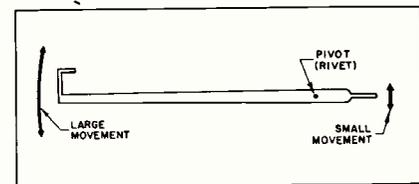

Fig. 2—Movement amplification of trip lever.
**Trip Lever.** The purpose of the trip lever is to couple the movement of the trip link (or trip finger, as the case may be) to the trip pawl. Due to the leverage design of the trip lever, the minute movement of the trip finger and the trip link is considerably amplified, as indicated in Fig. 2. The trip lever can easily be located